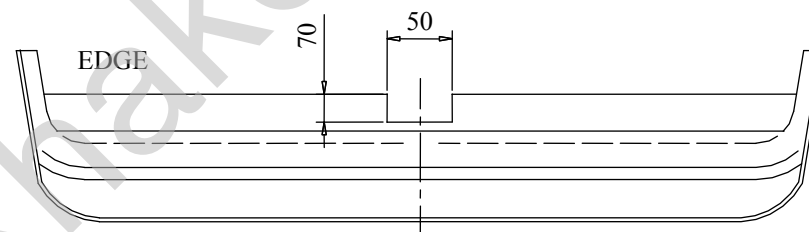

Fig. 2
3. Position the main bar of the towbar (pos. 1) to chassis members and fix it through the original holes using bolts M10x1,25x35mm (pos. 8).
4. Through the hole (pos. A) and original towing eye fix using bolt M12x140mm (pos. 6) together with washers (pos. 5) and distance sleeve $\varnothing 25 \times \varnothing 13$, L=73mm (pos. 4).
5. Cut the bumper according to the fig.2, then reassemble it.